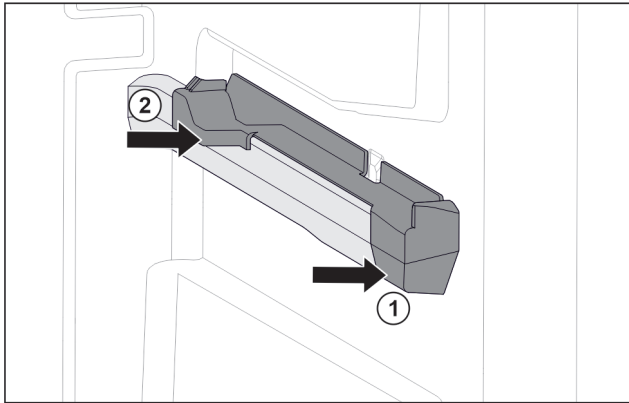

Fig. 148 Attachment on the right moulded rib
- ▶ Position attachment on moulded rib at the front. Fig. 148 (1)
- ▶ Press on attachment at the back. Fig. 148 (2)